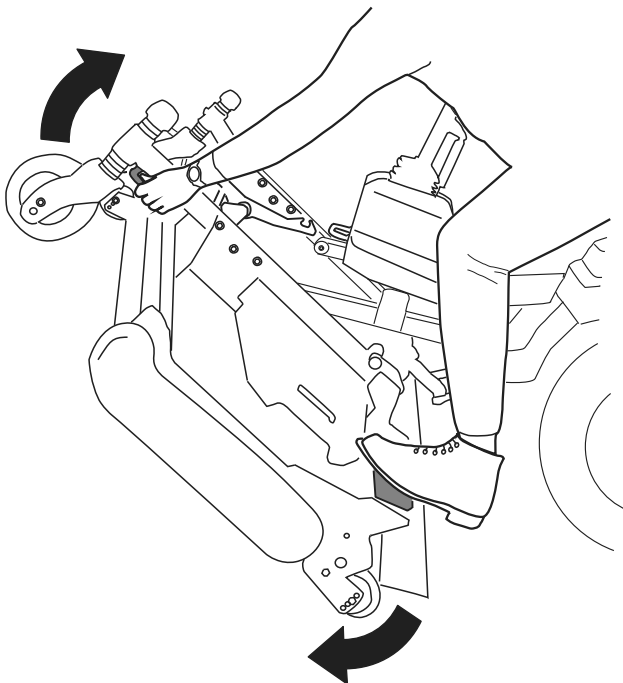
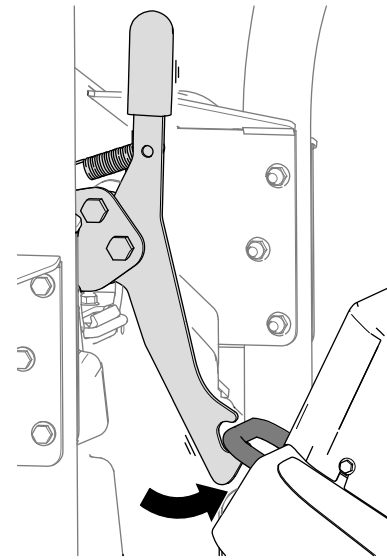
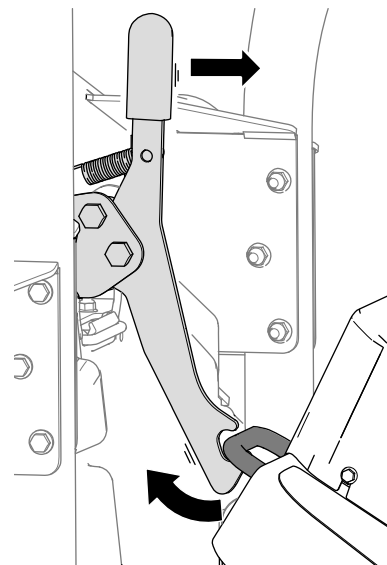

Figure 39
Figure 40
Figure 41
5. Rotate the cutting unit (Figure 39) so that the latch engages with the tie-down bracket (Figure 40).
1. Release the cutting-unit latch from the tie-down bracket (Figure 41) by slightly rotating the cutting unit slightly forward (refer to Figure 39) and pulling the latch handle forward.